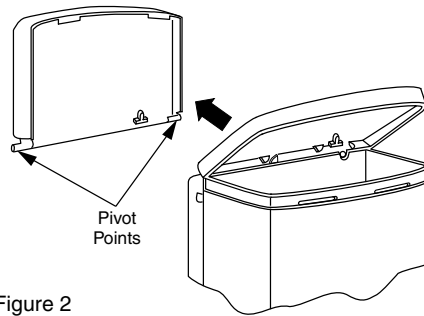

Figure 2
1. Hold the lid vertical and slide its two pivot points (see Figure 2) into the upper left and right slots of the wall bracket. A click sound will be heard when the lid is properly in place.